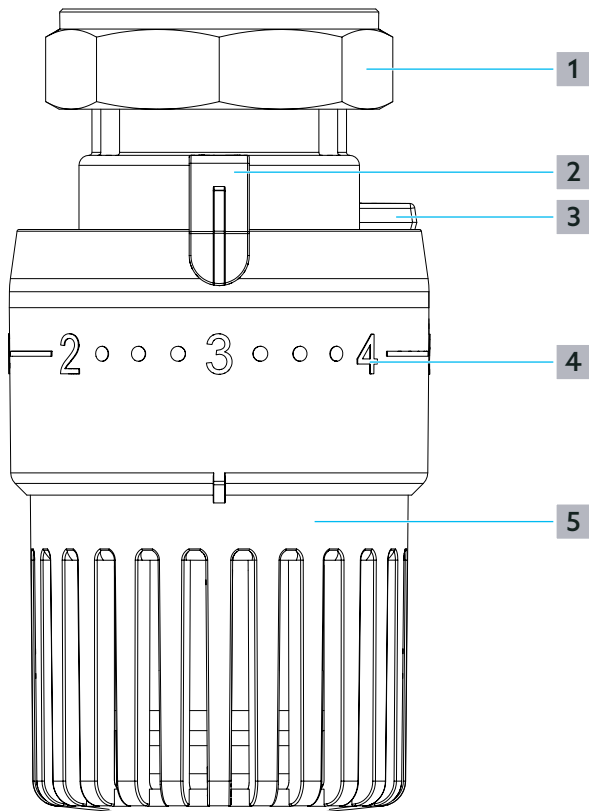

Fig. 1: Design
- 1** Turn the handwheel (position **5** in Fig. 1 on page 5) anticlockwise until figure "5" (position **4** in Fig. 1 on page 5) is aligned with the setting mark (position **2** in Fig. 1 on page 5). This will cause the tappet in the thermostat to be fully retracted.
- 3** Screw the thermostat with the fixing nut (position **1** in Fig. 1 on page 5) onto the thread of the thermostatic valve. Tighten the fixing nut firmly.
- ▶ To set the desired room temperature, turn the handwheel (position 5 in Fig. 1 on page 5) until the desired figure (position 4 in Fig. 1 on page 5) is aligned with the setting mark (position 2 in Fig. 1 on page 5).
For the desired room temperature control, the thermostat has two limiting elements (position 3 in Fig. 1 on page 5) with which the comfort range can be set individually.